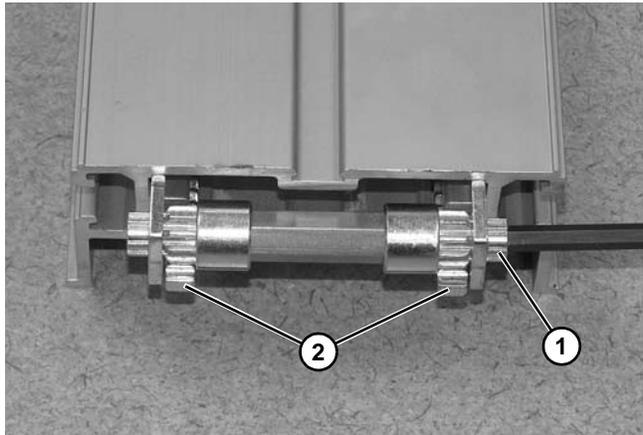

Figure 154
10. Rotate pinion (Figure 154, item 1) with hex wrench until gear racks (Figure 154, item 2) are fully collapsed.